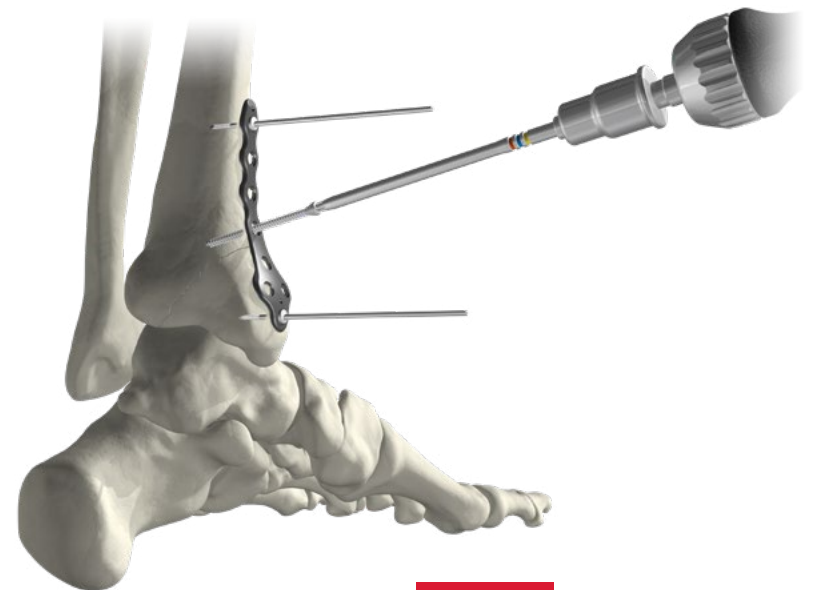

FIGURE 43
4. Insert the Depth Gauge into the pilot hole to determine screw length. Select desired screw length and type. Insert screw into the pilot hole and drive into position rotating clockwise with the driver (**FIGURE 43**).